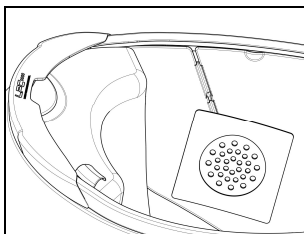

Fig. 26
- Position the right loudspeaker in its housing, inserting the cable in the special groove (Fig. 26). If necessary, secure the earphone using the adhesive supplied as standard equipment.
- Connect the battery to the wiring system (Fig. 26).